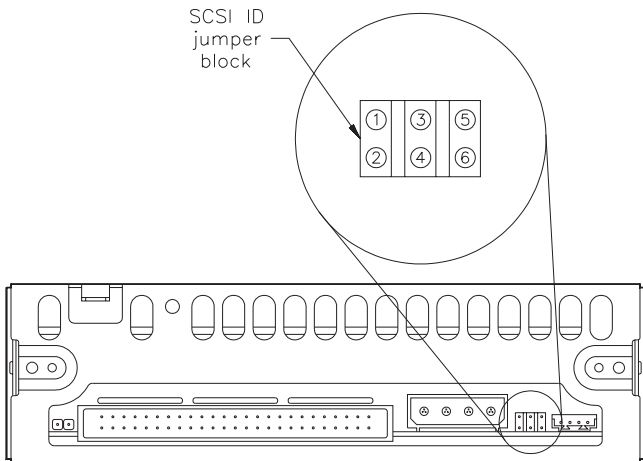

Figure 1 SCSI ID jumper block on the back of the tape drive
1. Locate the SCSI ID jumper block on the back of the tape drive, as shown in Figure 1.